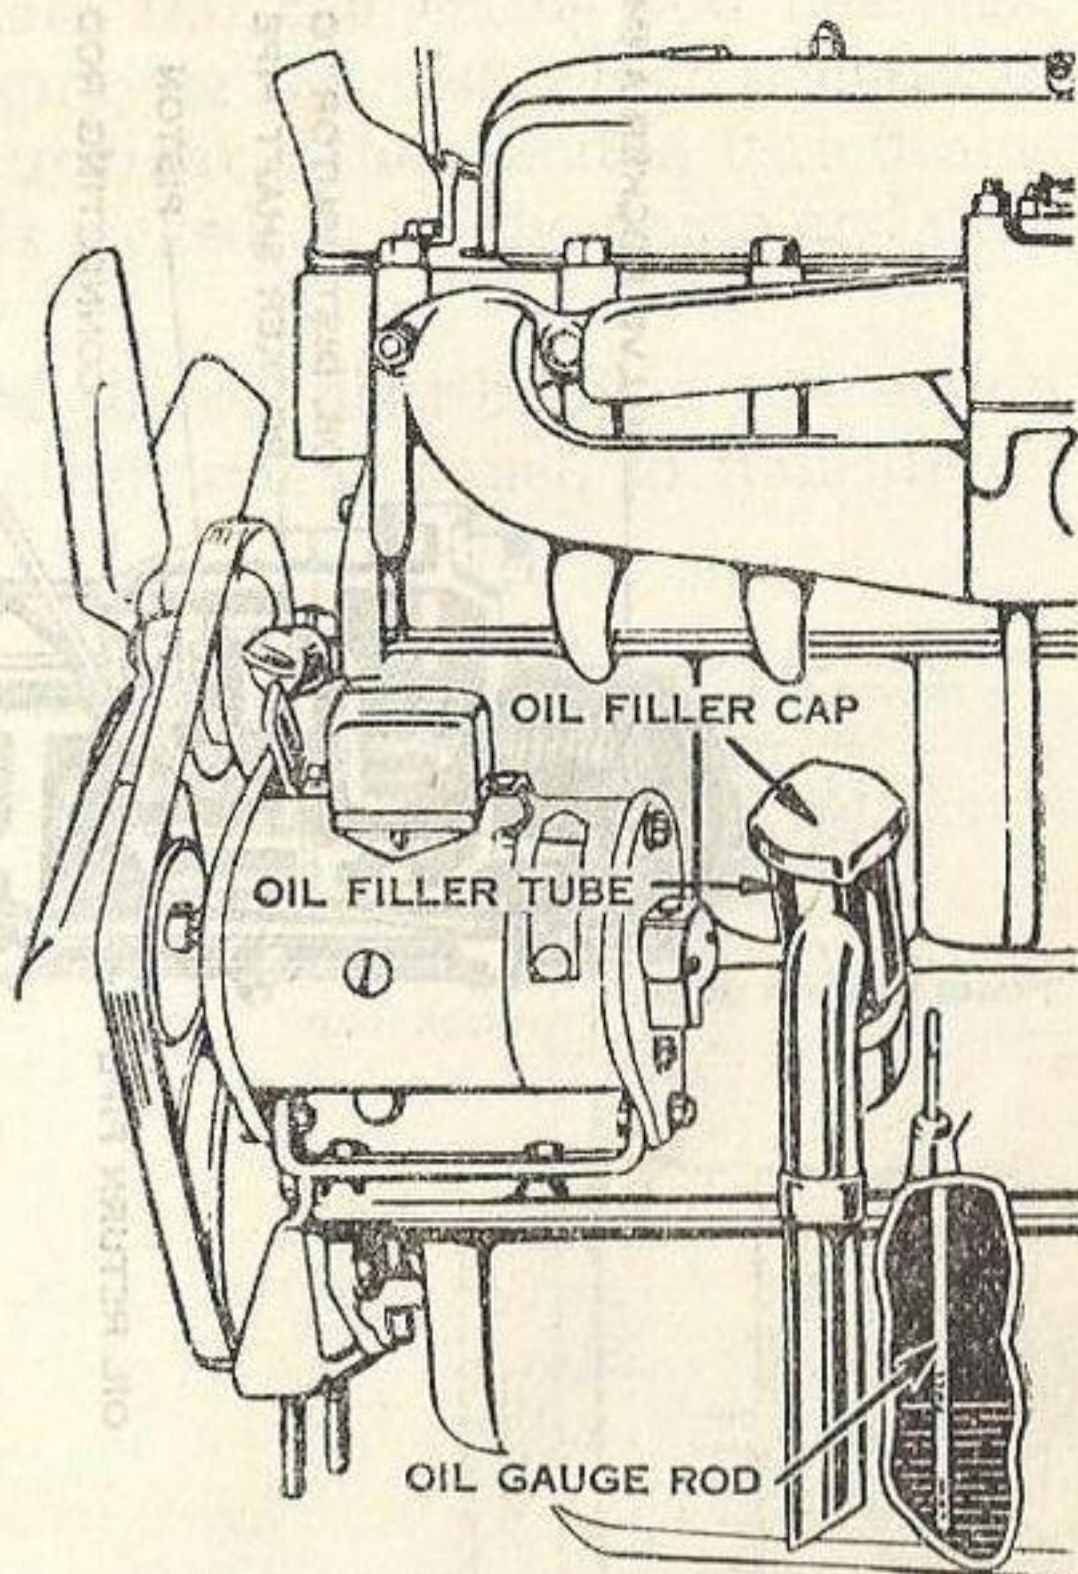

Fig. 4—Oil Gauge and Filler Pipe
Oil is carried in a reservoir located at the bottom of the crank-case and is filled through a filler tube on the left side of the motor, just back of the generator. (Fig. 4.)
- 11—Test condition of oil, by withdrawing the oil gauge rod (Fig. 4).